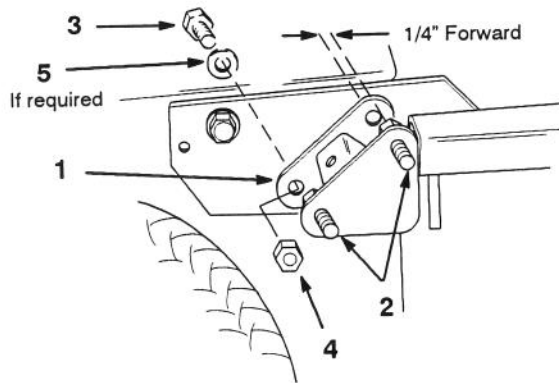

Figure 3
1. Remove (2) front bolts at right carrier frame mount.
2. Hold front adaptor against carrier frame as shown in (Fig. 3).
3. Place (2) 1/2-16 x 1 in. bolts between flanges and through outside flange of front adaptor (Fig. 3).
- Secure front adaptor to traction drive frame with 1/2-16 x 1-1/4 in. bolts through from inside traction frame and 1/2 in. lock nuts (Fig. 3).